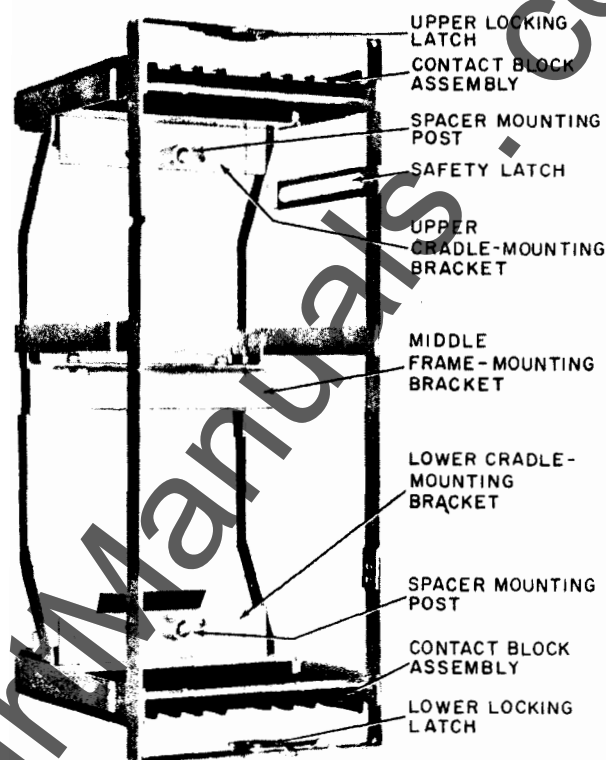

Fig. 7. Cradle for 3- and 4-stator meters with assembly removed
1. Remove the cover and slide the cradle out of the meter case. On the DS-54 meter, the two screws holding the terminal block to the case must be removed. To completely remove the meter unit from its case, depress the safety latch (see Fig. 7) to clear the case stop.